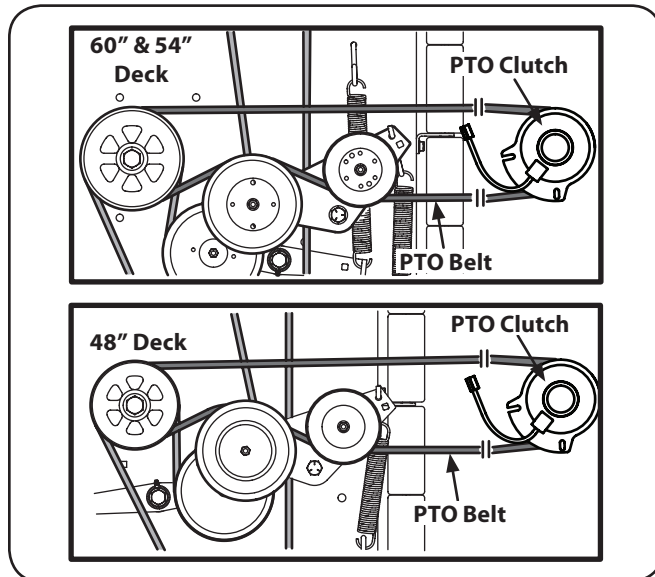

Figure 7-5
1. Remove the PTO belt from the deck as instructed in the Deck Removal section then remove it from around the PTO clutch. See Figure 7-5.
2. Route the PTO belt as shown in Figure 7-5. After routing the belt around the PTO pulley, use a $\frac{1}{2}$ " drive in the idler pulley bracket and turn towards the right of the tractor to finish routing the belt around the idler pulley.